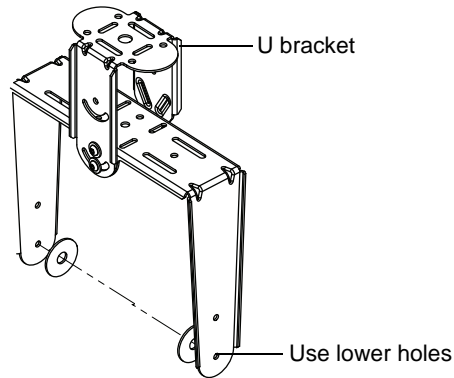

Figure 2-12 Attachment Points for Maximum Vertical and Horizontal Angle Adjustment
- For maximum vertical and horizontal angle adjustment, use the holes on the yoke and U bracket, as shown in Figure 2-12.